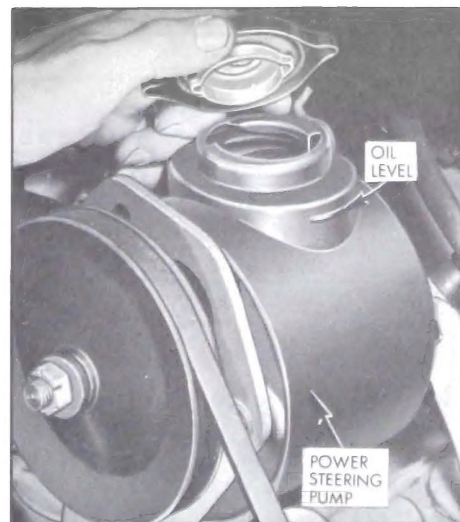

Figure 1-8—Power Steering Gear Reservoir
5. Power Steering Gear. Thoroughly clean dirt from reservoir cap on top of oil pump, then remove cap. With system warmed up, maintain level with Buick power steering gear fluid or equivalent. See Figure 1-8.